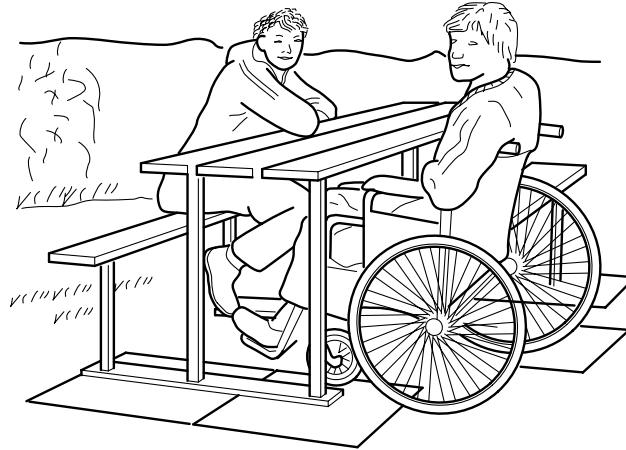

Fig. 1
- 1 Fig. 1 shows a picnic table which is designed for both wheelchair and able-bodied users.